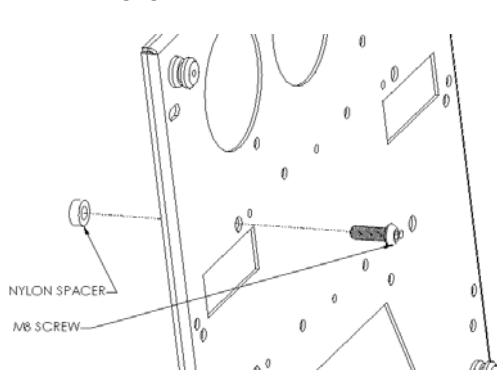
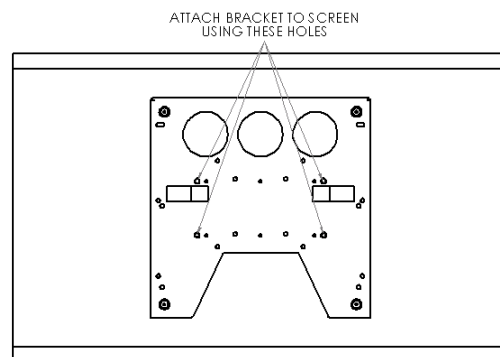

Figure 4
Figure 5
2. Place Nylon spacers on mounting holes and align hole pattern on brackets with pattern on back of Plasma Display (see Figure 4 & Figure 5). Attach bracket utilizing the M8 screws.